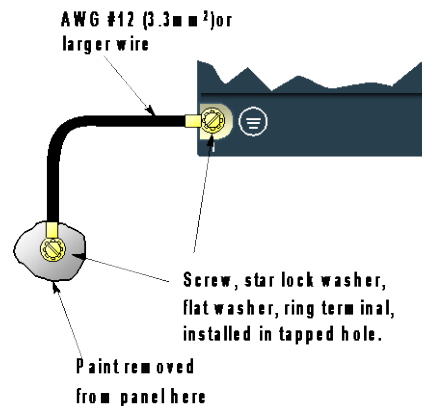

Figure 411: Ground Connection Diagram
1. Using the power cord, attach the power supply to the power terminal block as displayed in Figure 411.